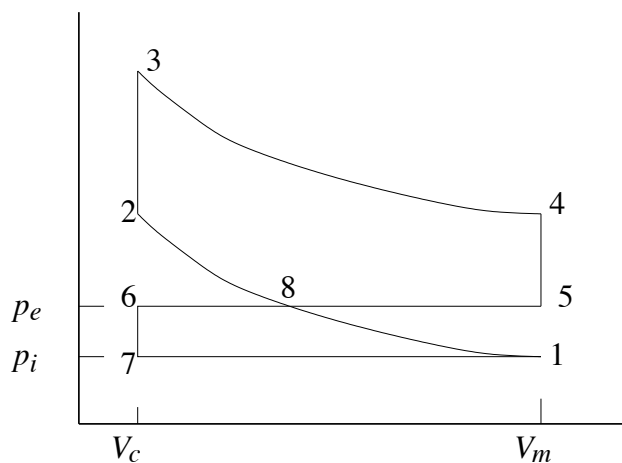

Fig. 1
- (b) Figure 1 below shows an idealised, throttled, four-stroke engine cycle. Assuming the working fluid is a perfect gas, find expressions for the work done during the compression and expansion strokes in terms of  $p_e$ ,  $p_i$ ,  $p_3$ ,  $V_m$  and  $V_c$ . [10%]
- (e) Sketch the  $p$ - $V$  diagram of Fig. 1 in your script, and add to this a sketch of a cycle operating between the same minimum and maximum volumes, which would produce the same net work, based on late inlet valve closing. You may assume that the unthrottled inlet pressure is equal to  $p_e$ . No calculations are required, but justify your sketch with comments. [10%]